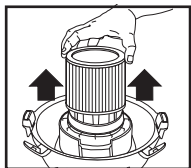

FIGURE 23
43. Slide the cartridge filter off the lid cage. **FIGURE 23.**